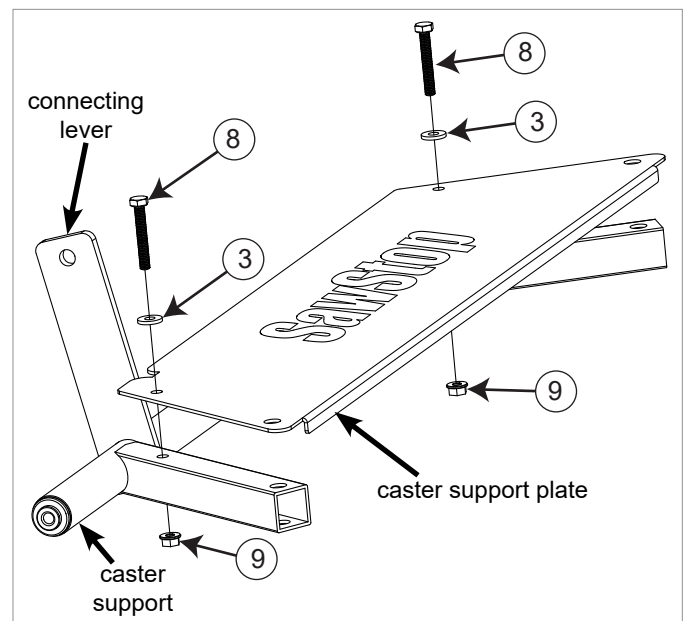

Fig. 5
- Position the caster support plate on top of the caster support as shown in Fig. 5. Note that the connecting lever on the caster support and the SawStop logo on the support plate both face up. Secure the support plate to the caster support with two M6 x 40 hex bolts, two M6 washers, and two M6 flange lock nuts. Fully tighten the two M6 x 40 hex bolts using two 10 mm wrenches.